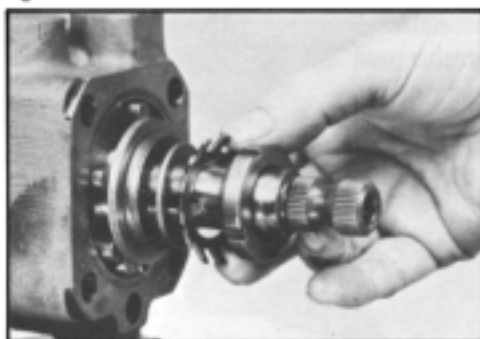

Figure 109
10. Assemble washer (11) then a **new** bearing lock-washer (10) onto worm shaft (23). The internal washer tangs must enter slot in worm shaft and the external tangs of bearing lock-washer must face out. SEE FIGURE 109. Assemble bearing lock nut (9), large chamfer side in, onto threaded diameter of worm shaft until components are at solid height and snug against valve spool (15B).